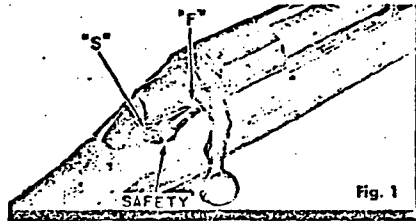

Fig. 1
**ON SAFE (Fig. 1)** — Rotate side lever safety at right rear of receiver to rear stop position marked "S" on receiver. Bolt handle will be locked down and trigger will not fire rifle.